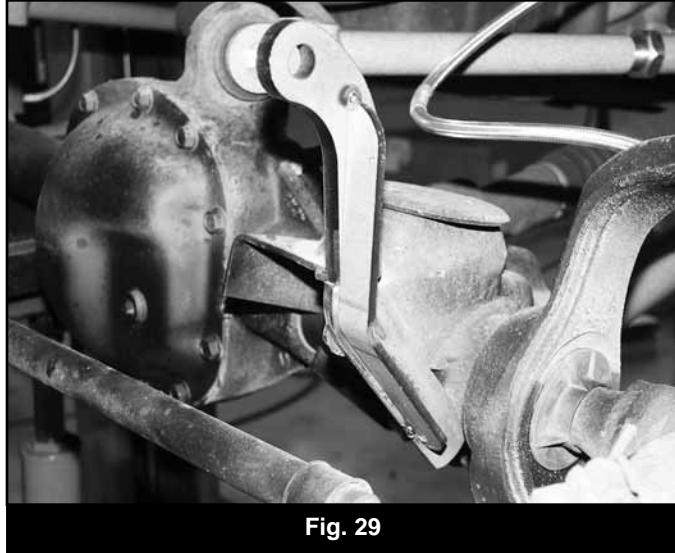

Fig. 29
71. With the links positioned correctly, locate the provided formed side gussets (01361). Position the gussets so that they are parallel to the front surface of the original link mount and flush to the outside surface of the new link mount (Fig 29). Once they are in the desired position, tack weld the gussets in place.